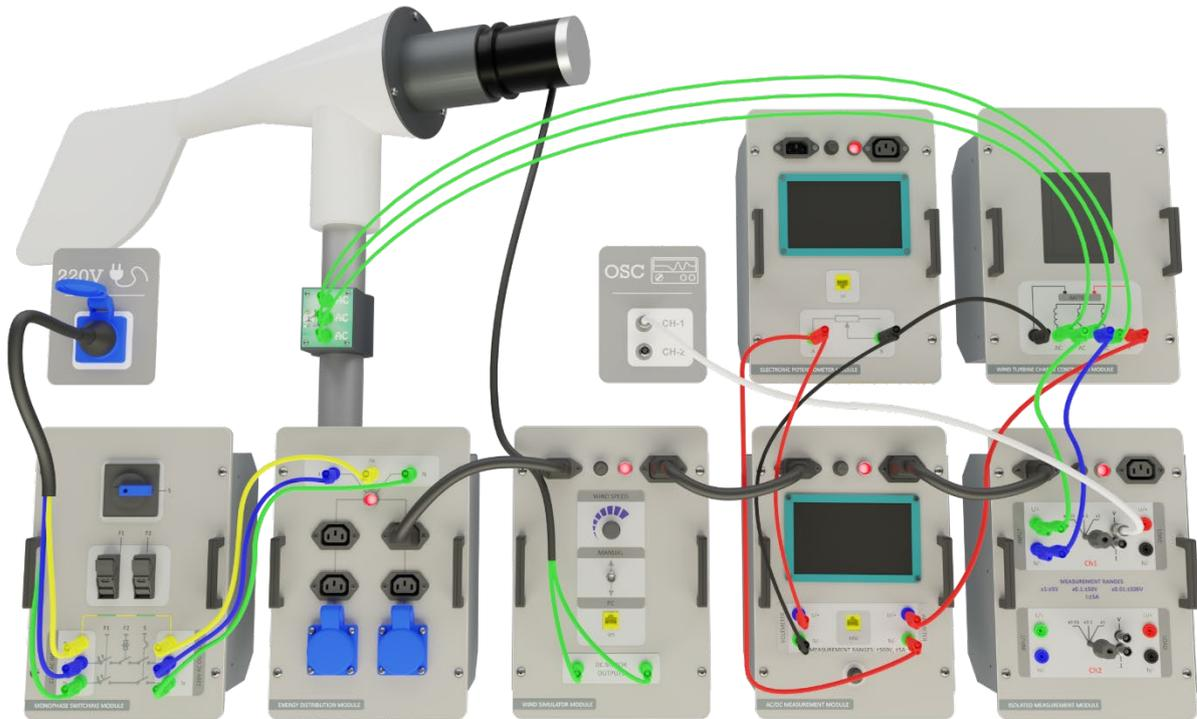

Figure-71 Installation Image of Examination of Variable Load Wind Turbine Charge Control System
- Make the connection as illustrated in Figure-71. Ensure that the caster of the wind turbine is locked to prevent movement.